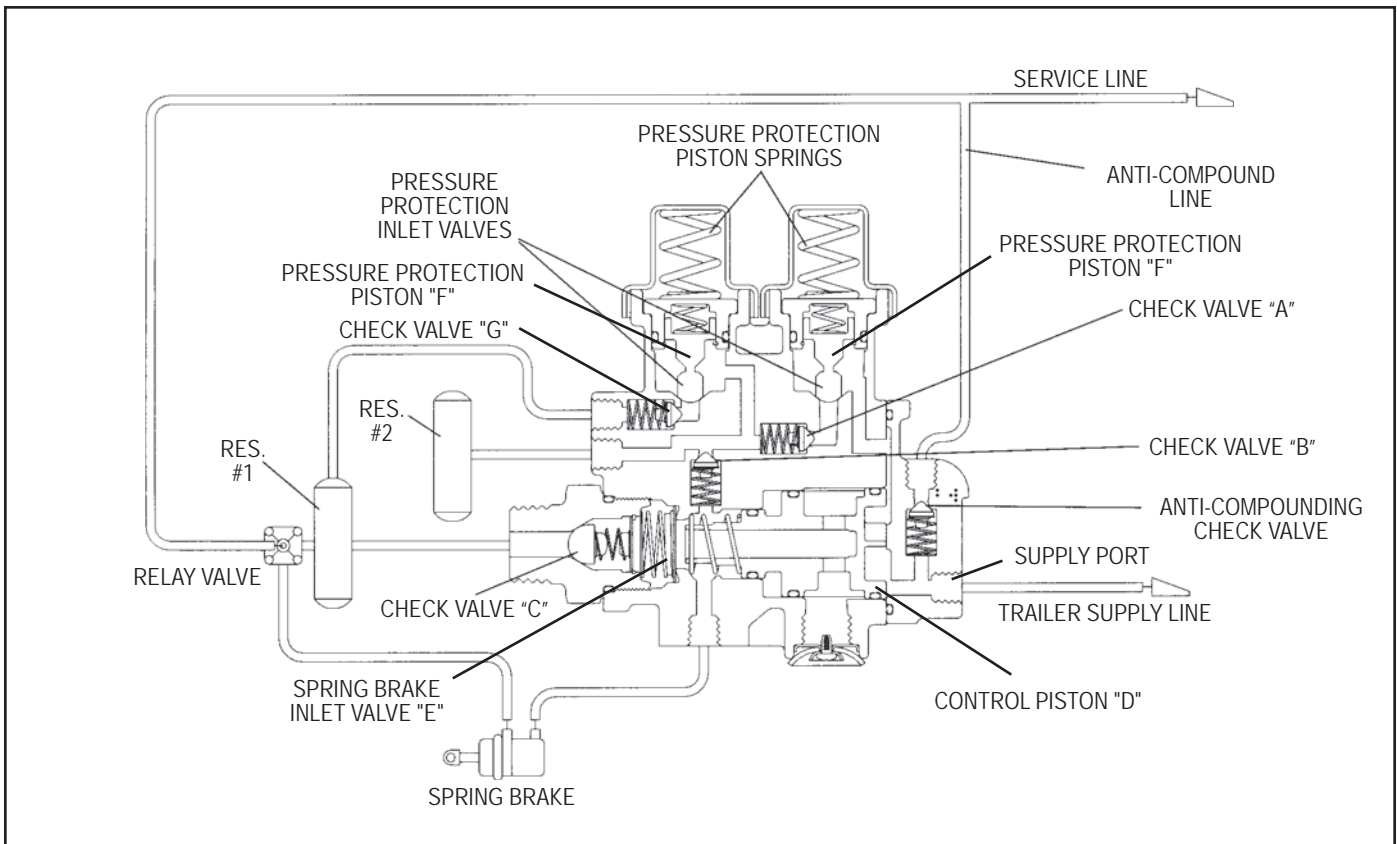

FIGURE 2 - SR-4™ VALVE CROSS-SECTIONAL SCHEMATIC
OPERATION (FIG. 2)
Under certain conditions when the tractor protection valve goes into the emergency mode during a service application, the trailer supply line will be exhausted but some air may be trapped in the service line, creating a service application plus a full spring application. This creates a false park situation and adds an extra load on the foundation brake components. This may be prevented by adding the optional anti-compounding piping as shown in Figs. 2 & 3.
- NOTE: *Figures 2 and 4 show check valve “A” and check valve “B” out of position for illustration.*
13. Remove the two check valve springs (20), and rubber check valves (21).